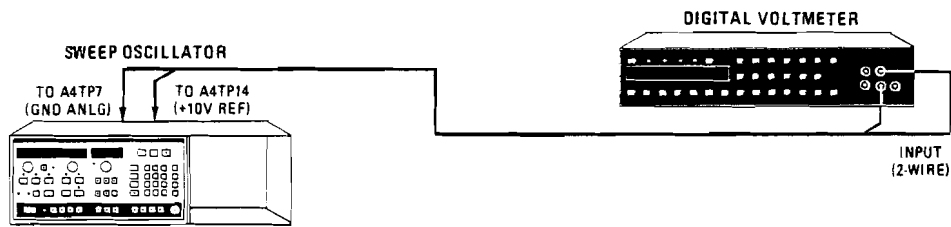

Figure 5-6. +10V REF DAC Power Supply Adjustment Setup.
3. Position the sweep oscillator upright as shown in Figure 5-6 and remove the top cover and the A4/A5 shield cover.
4. Connect the DVM to A4TP14 (+10V REF) and A4TP7 (GND ANLG) as shown in Figure 5-6.